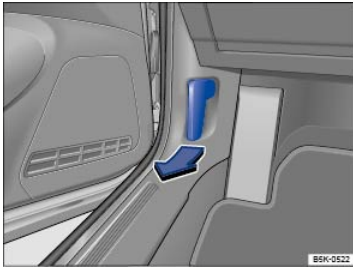

Fig. 180 In the footwell on the driver side: Inside engine hood release lever.
- Open the driver door and pull the inside hood release lever in the direction of the arrow ⇒ Fig. 180. The engine hood is released from its latch by a spring ⇒ .